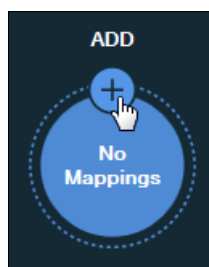

Figure 2-46 Add a mapping
2. The Volume Mapping window is displayed (see Figure 2-46). If no mapping exists yet, click the plus sign (+) to add a mapping.